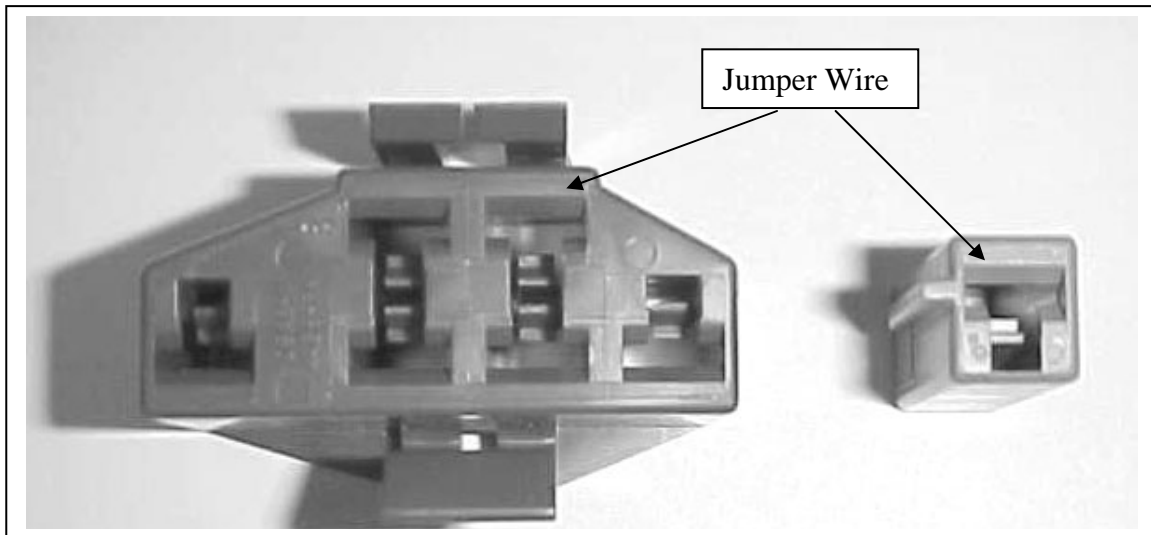

Figure 8.1 STO & STI Self-Test Connectors
- 8.2.2** In order to retrieve the trouble codes stored in the computer, locate the Self-Test connectors (STO and STI) (installed and connected in **Paragraph 6.2.1**). Take the STI connector and jumper it over to the STO connector. (See **Figure 8.1**)